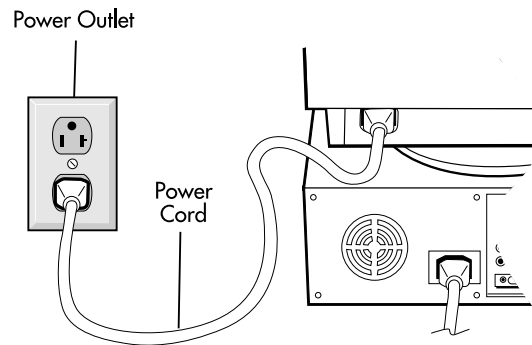

Figure C.1
**NOTE:** To obtain the MultiSync FE750+ Macintosh cable adapter, call NEC-Mitsubishi Electronics Display of America, Inc. at (800) 820-1230.
5. Connect one end of the power cord to the MultiSync FE750+ monitor and the other end to the power outlet (**Figure C.1**).